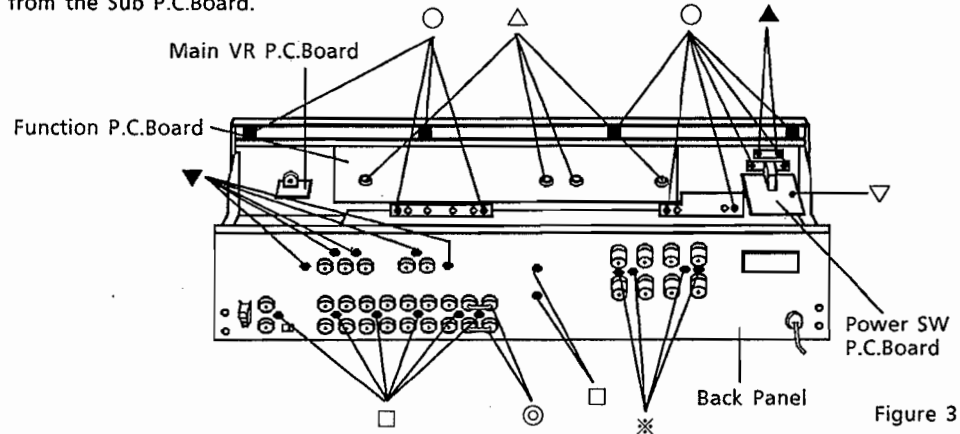

Figure 3
- (1) Remove six screws marked "△" and "▲" as shown in Figure 3.
- (2) Disconnect all wires from the Main P.C.Board, Sub P.C.Board and Main VR P.C.Board.
- (1) Remove one screw marked "▽" as shown in Figure 3.
- (2) Disconnect all wires from the Power SW P.C.Board.
- (1) Remove four screws marked "※" as shown in Figure 3.
- (2) Disconnect all wires from the SP Terminal P.C.Board.
- (1) Remove two Jumper pins marked "⊙" as shown in Figure 3.
- (1) Remove five screws marked "▼" as shown in Figure 3.
- (2) Disconnect all wires from the Video P.C.Board.